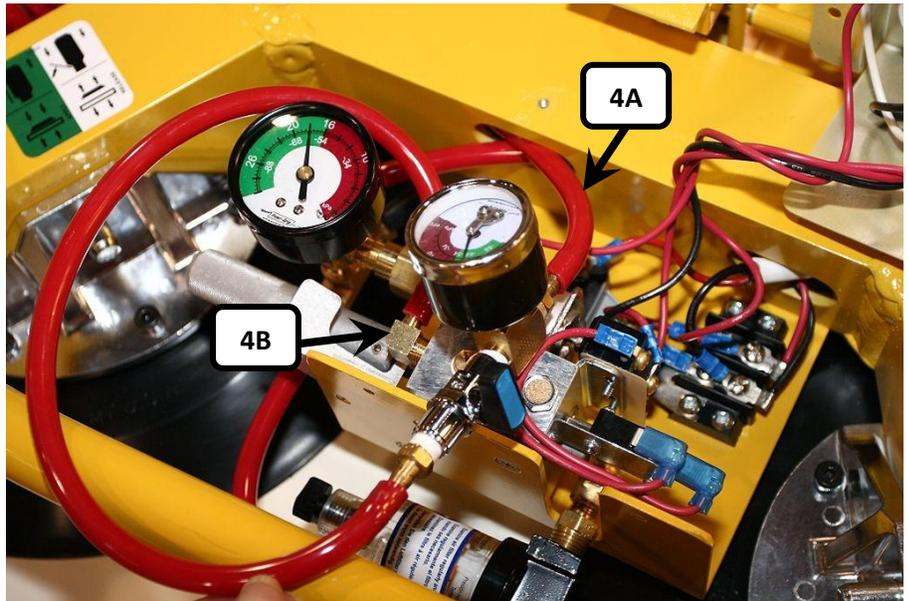

FIGURE 4
3) Attach the end of the ball valve with the vacuum gauge to this hose and, using a short piece of hose, attach the other end of the ball valve to the 90° hose nipple. See **FIGURE 4**.